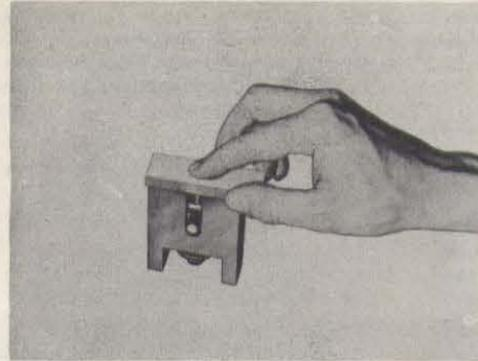

Figure 7—Using No. 11-1248 Dressing Kit
(1) Check the breaker lever bushing for looseness on its axle. If it is loose, the bushing is probably worn thus requiring replacement of the breaker lever. Inspect the contact points. Should the surfaces need dressing, remove contact screws and place them in the No. 11-1248 contact point dressing kit for redressing with the special No. 11-1269 stone. (See figure 7.) To do this remove main spring securing screw from breaker housing, the breaker lever axle lock screw, the axle, and the lever assembly, and use socket wrench No. 11-1033 to remove the short contact screw from the lever. Some care should be taken as the screw is staked to the lever. Use wrench No. 11-490 to remove the long contact screw from the support. Always be sure to restake the short contact screw to the lever after